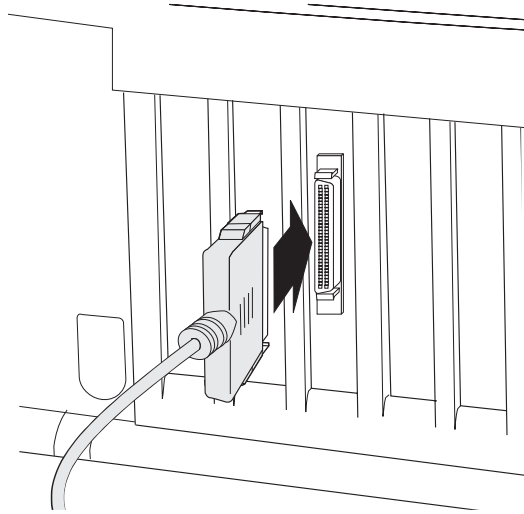

Figure 2-7. Attaching an External Cable to the External SCSI Connector
- 2 Attach one end of the 68-pin cable to the 68-pin Ultra Wide external SCSI connector on the adapter (shown in Figure 2-7.)